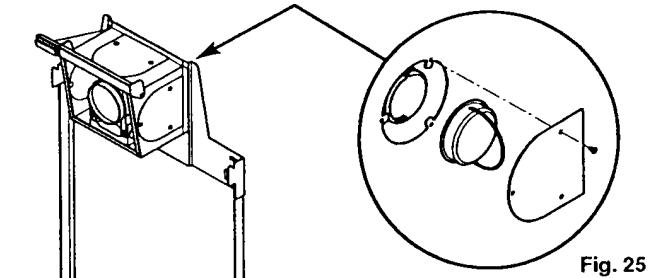

Fig. 25
1. Remove the rear air box blanking plate from the wall plate by releasing the three screws (Fig. 25).
2. Remove the blanking cap at the rear of the turret, by pushing and turning anti-clockwise to release the bayonet fitting (Fig. 25).